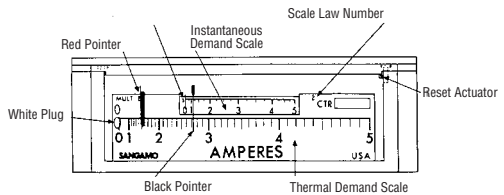

Figure 3.1 ADF-7
Every AD-7 meter has a red pointer and a black pointer on the meter face. The red pointer on the demand scale indicates the present thermally time averaged current. The black pointer indicates the maximum thermally time averaged current the meter has experienced since last reset. On instantaneous ammeters, the red pointer on the instantaneous scale indicates the value of the instantaneous current (see Figures 3.1 and 3.2).
Refer to Figure 3.1. Remove the white plug on the left side of the meter face and rotate the white screw head to obtain the desired multiplier. The multiplier will appear directly above the screw (multiplier is either 1 or 1/2, or 1 or 2). Replace the plug.
**NOTE:** Refer to Figure 3.1. Choose scale with the same scale law number as the secondary rating scale in the meter, failure to use scales with the same scale law will adversely affect the accuracy of the meter.